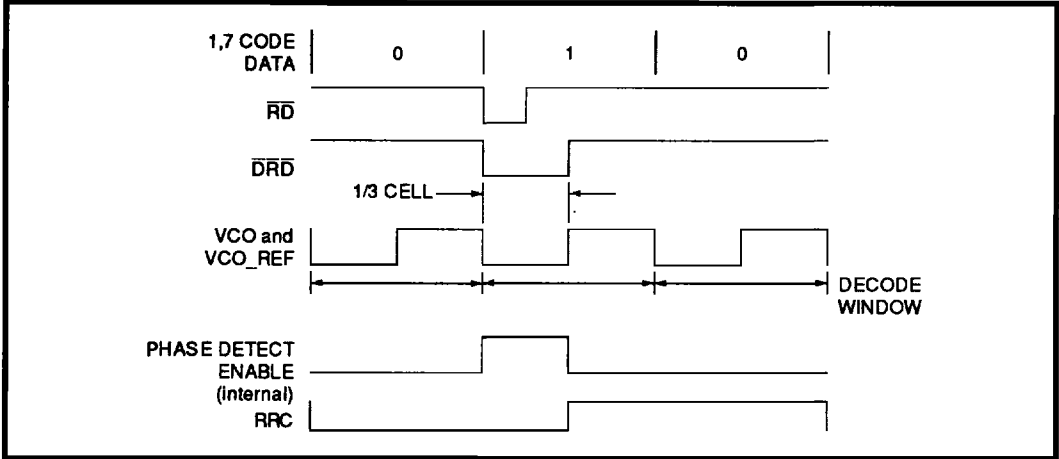

FIGURE 11: Data Synchronization Waveform
The data synchronizer utilizes a fully integrated fast acquisition PLL to accurately develop the decode window. Read gate (RG) initiates the PLL locking sequence and selects the PLL reference input; a high level (read mode) selects the internal RD input and a low level selects the reference clock. In the read mode the falling edge of $\overline{\text{DRD}}$ enables the phase detector while the rising edge is phase compared to the rising edge of the VCO reference (VCOR.) As depicted in Figure 11, $\overline{\text{DRD}}$ is a 1/3 NRZ bit cell wide pulse whose leading edge is defined by the falling edge of $\overline{\text{RD}}$. A decode window is developed from the VCOR clock.